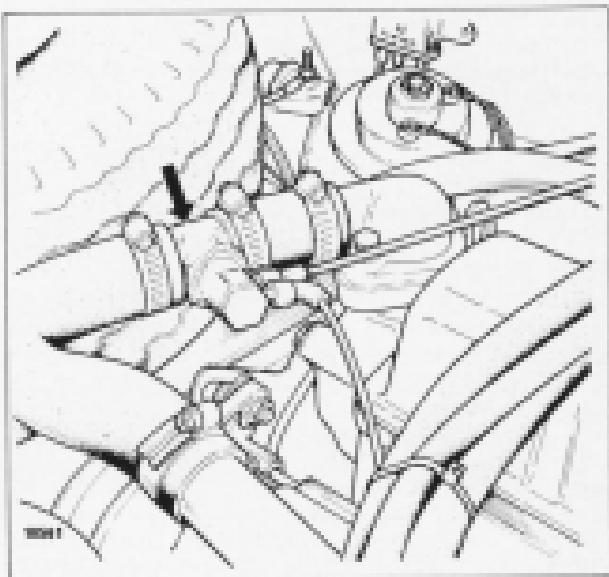

Fig. 10
4. A Thermostatic Vacuum Switch (Fig. 10) prevents overheating during prolonged idling, by increasing the speed of the engine, thus promoting more efficient cooling at high ambient temperatures.